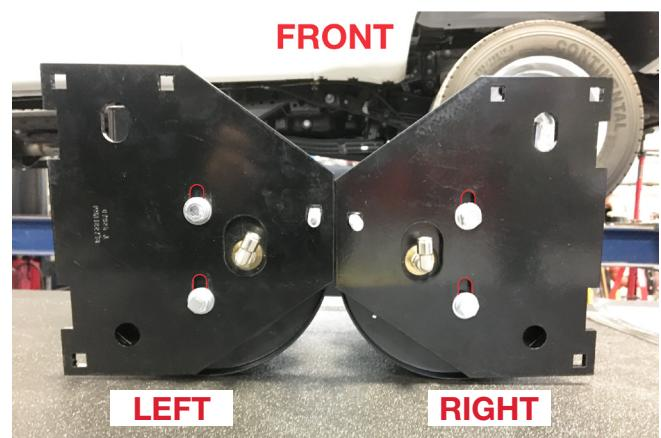

Fig. 8
2. Insert 3/8"-16 x 1 1/4" carriage bolts (N) into the square holes on the brackets, then secure the upper air spring bracket (E) onto the top of the air springs using 3/8"-24 x 7/8" hex bolts (X), 3/8" lock washers (Y) and 3/8" flat washers (S). At this stage, the air spring assemblies are left- and right-hand units. Push the brackets as far forward as possible (Fig. 8). Torque the hardware to no more than 20 lb.-ft. (27Nm).
6. When installing the lower brackets onto the air spring assemblies already assembled (step 2, Fig. 8), if you have a sway bar equipped vehicle, make sure the lower bracket assembly you assembled for the passenger's (right) side, is assembled on the passenger's (right) side air spring assembly. Using the holes specified in step 5, for vehicles not equipped with sway bars, it will not matter which assembly the lower bracket fits on.